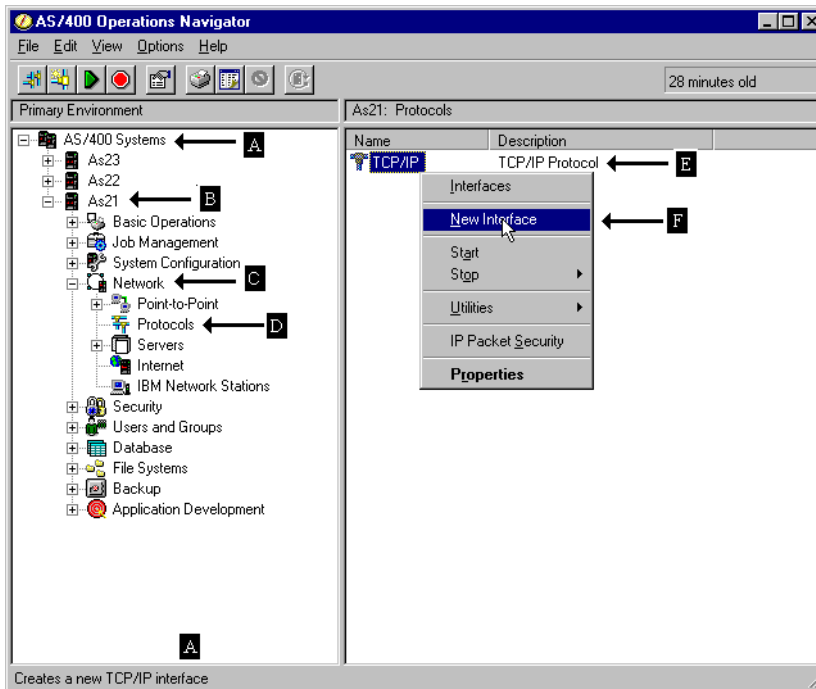

Figure 334. Context menu - New Interface
- a. Double-click your **AS/400 Systems** icon (A) and it should give you a list of all the AS/400 systems that you are configuring.
- b. Double-click the AS/400 system that you want to configure a TCP/IP route for (B).
- c. Double-click **Network** (C).
- d. Double-click **Protocols** (D).
- e. Right-click **TCP/IP** to open a context menu (E). Select **New Interface** (F). Figure 334 shows the context menu - New Interface option.